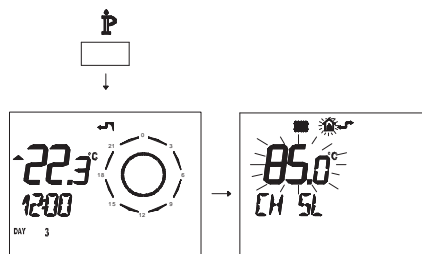

Fig. 7.35
- Press button  for more than 3 seconds to enter in **INFO** mode (Fig. 7.35).